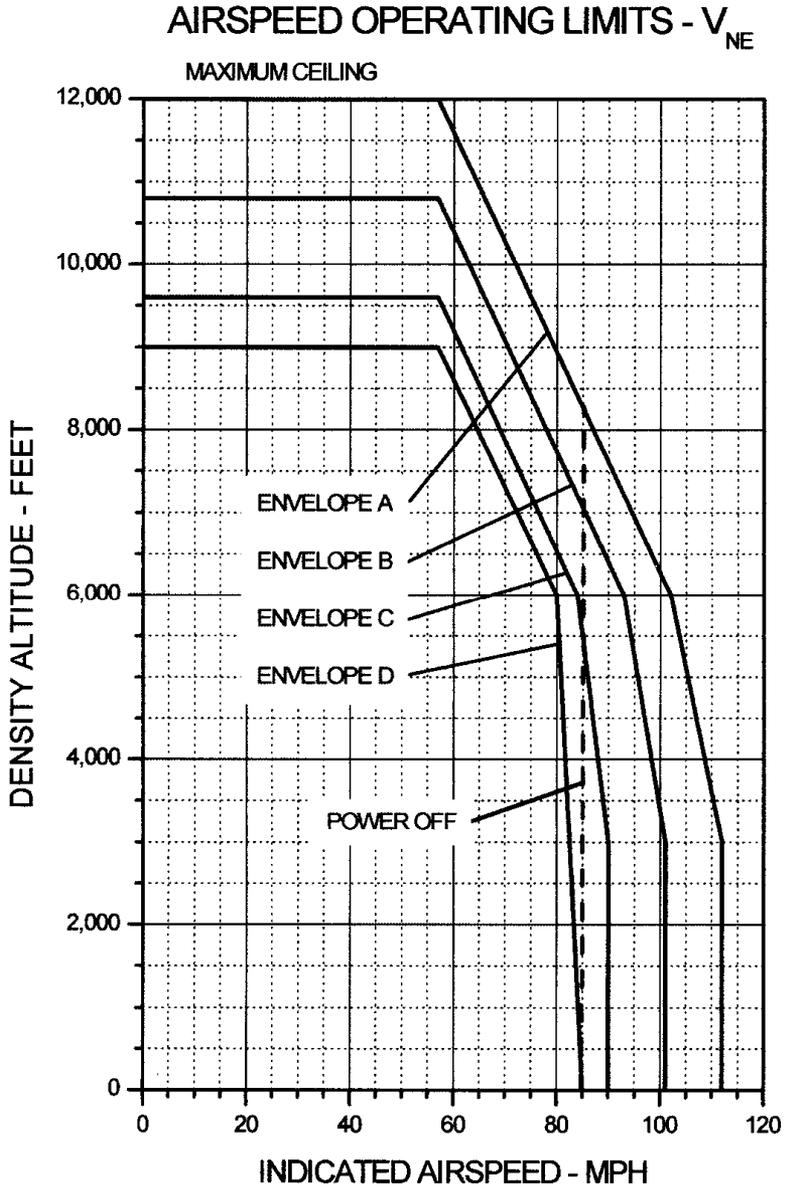
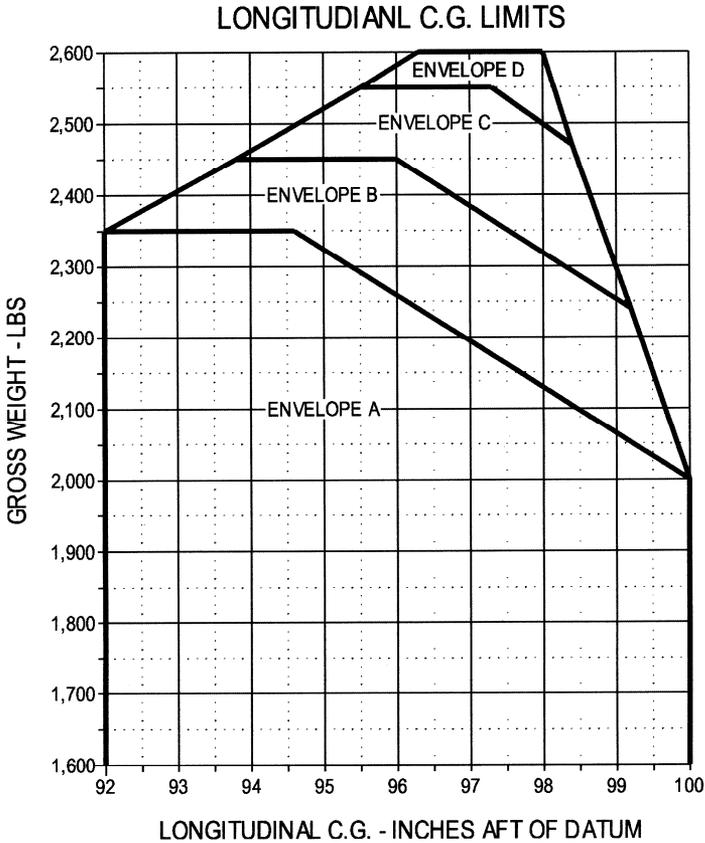

Figure 5-1. V_{NE} Variation with Density Altitude
Figure 6-1. Longitudinal CG Envelopes
The solid V_{NE} /altitude curves shown in Figure 5-1 apply only to operation with the c.g. within the appropriate areas shown in Figure 6-1.
Use Figure 6-1 to determine actual location of c.g.
Altitude operations may also be limited by V_{NE} and OGE hover. Cross check Figure 5-1 and Figure 5-4 for intended operations when using this figure.
- b. Longitudinal c.g. range variable with gross weight from 92.0 inches to 100.0 inches (reference Figure 6-1).